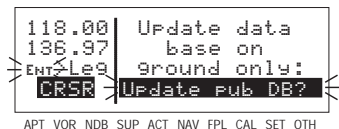

Figure 2-3
5. Press **CRSR**. **Update Pub DB?** will now be inverse video as in figure 2-3.